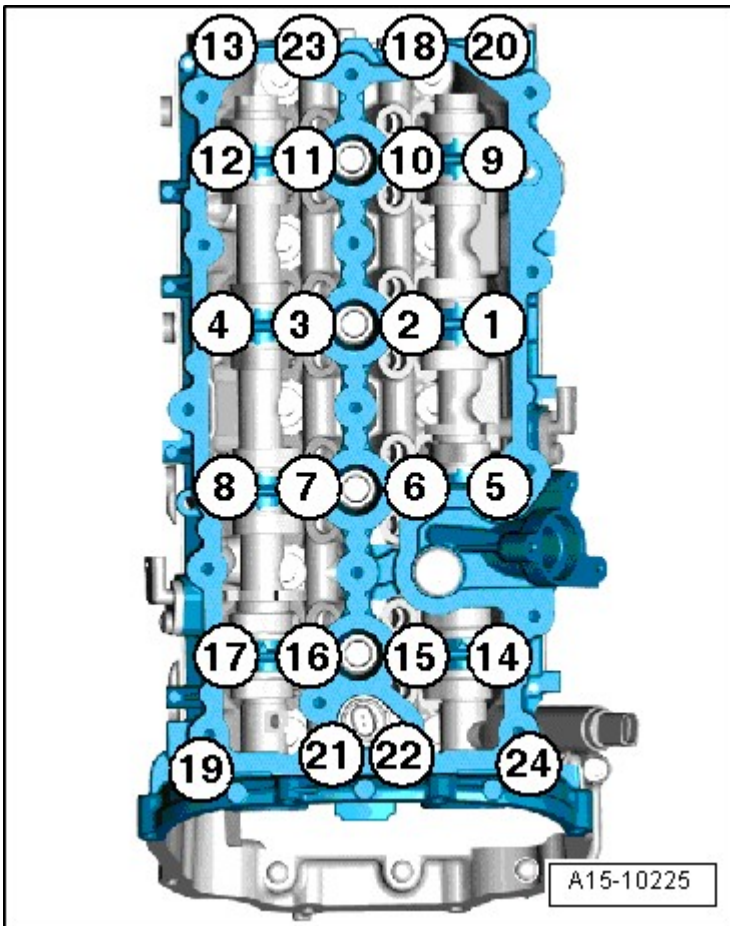

Fig. 21: Identifying Camshaft Guide Frame Tightening Sequence
- Tightening specification and sequence, refer to **Fig. 21**